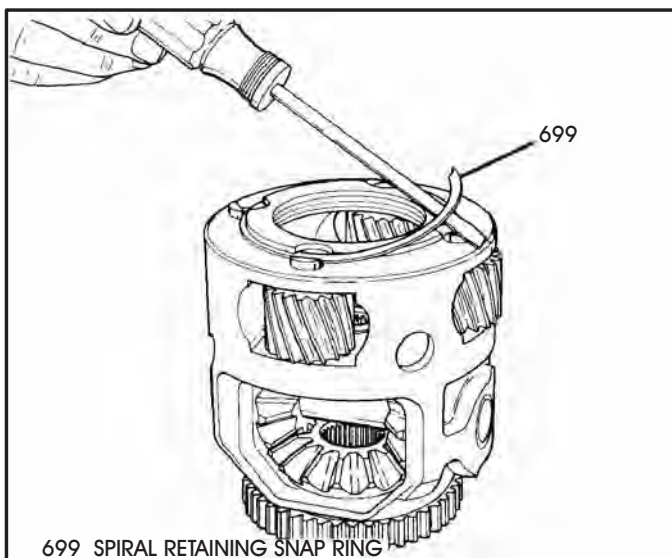

Figure 84
13. Install the spiral snap ring that retains pinion pins in the final drive carrier (See Figure 84).